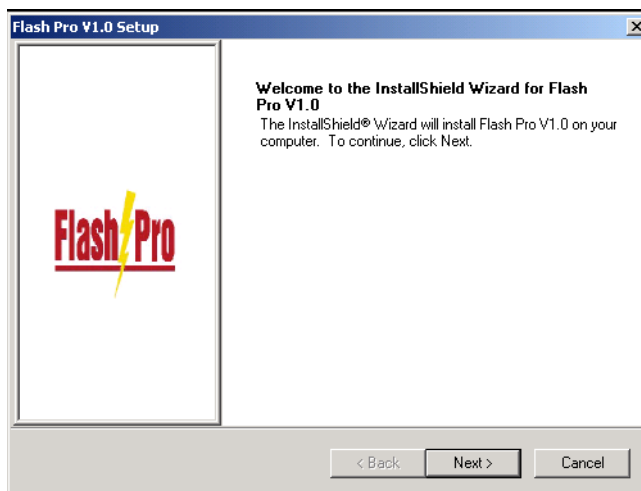

Figure 1-1. Flash Pro Installation Wizard
1. **Insert the Flash Pro CD into your drive.** The installation wizard starts, as shown in Figure 1-1